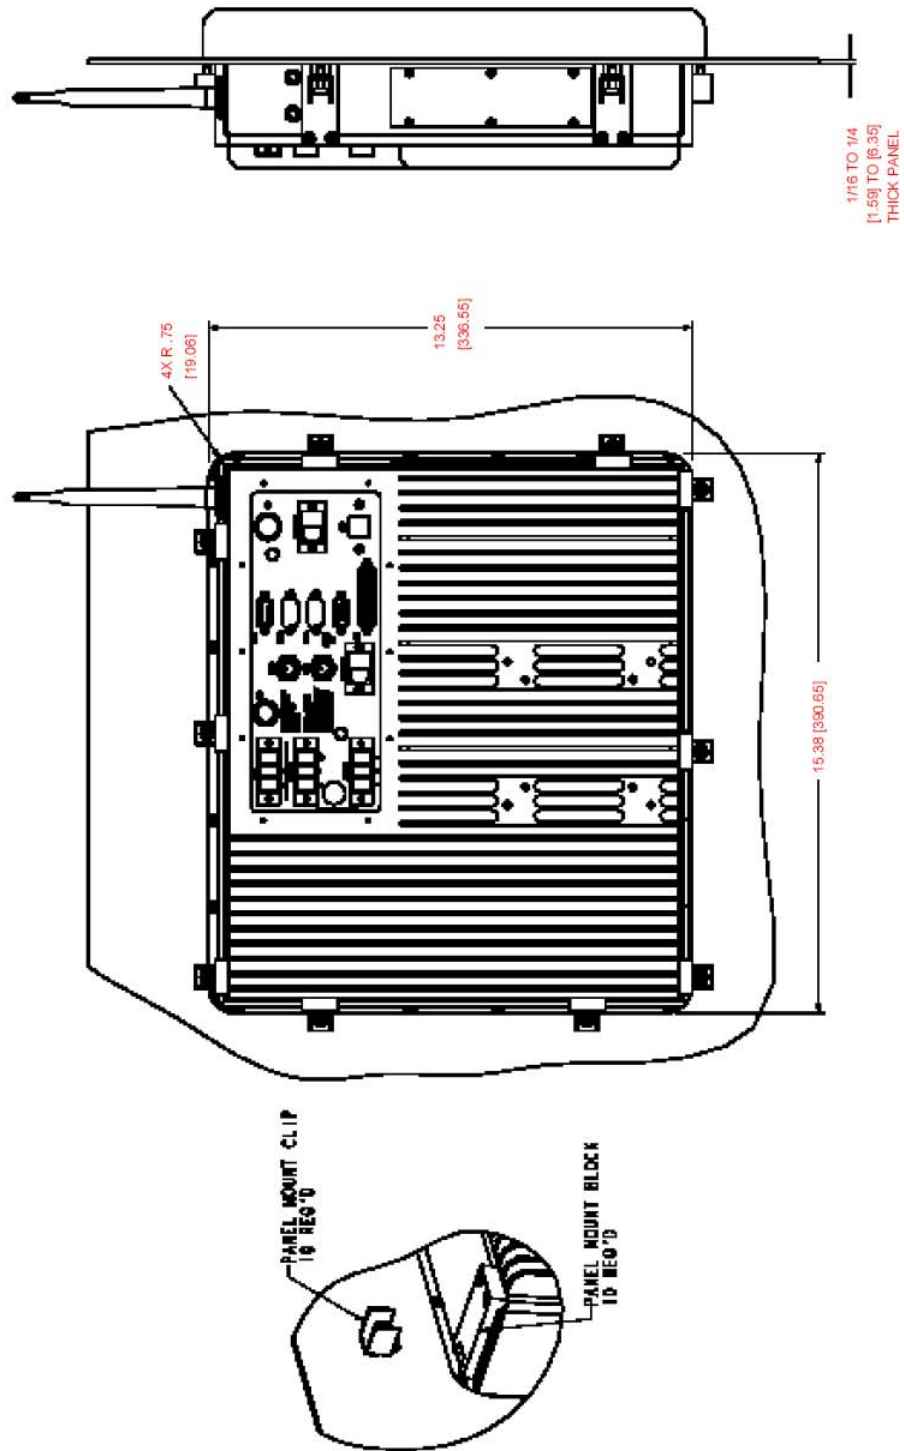
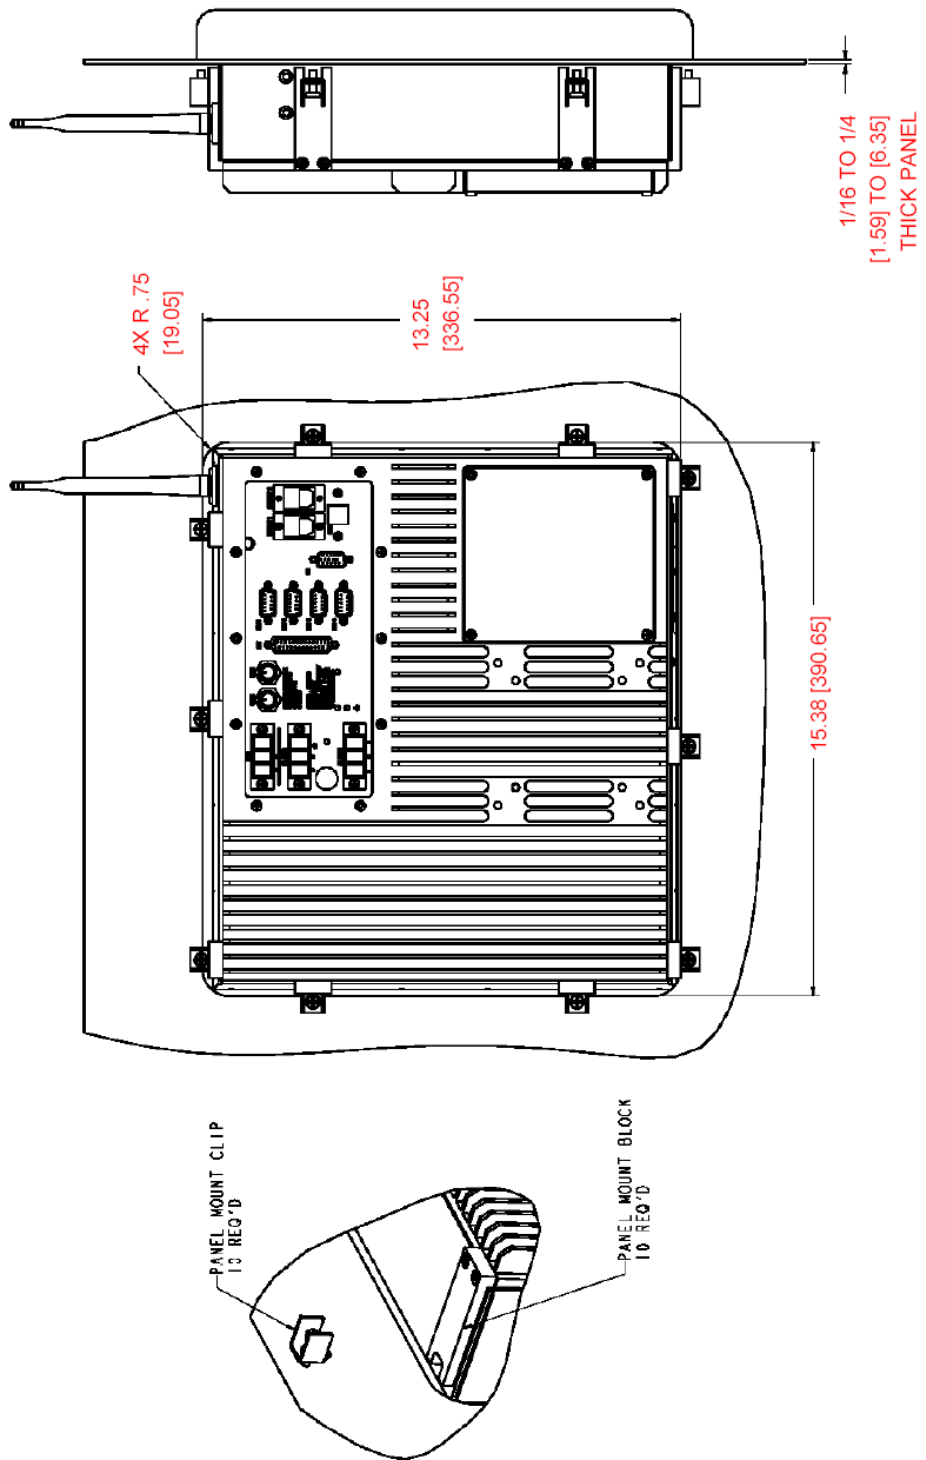

Figure 2.3: Panel Mount Option (Wolverine, Wolverine AC)
Figure 2.4: Panel Mount Option (Wolverine II DC, Wolverine II AC)
- The computer is furnished with four ¼ -20 mounting holes two on each side and eight ¼-20 VESA mounting holes on the back of the Heat Sink. A panel mount option is also available (see Figure 2.3 and Figure 2.4 for cutout dimensions and mounting instructions).
- When panel mounting, insert unit through front of panel and install panel mounting clips as shown in Figure 2.3 and Figure 2.4. Torque clips from 5 to 10 in-lbs (57-113Ncm).